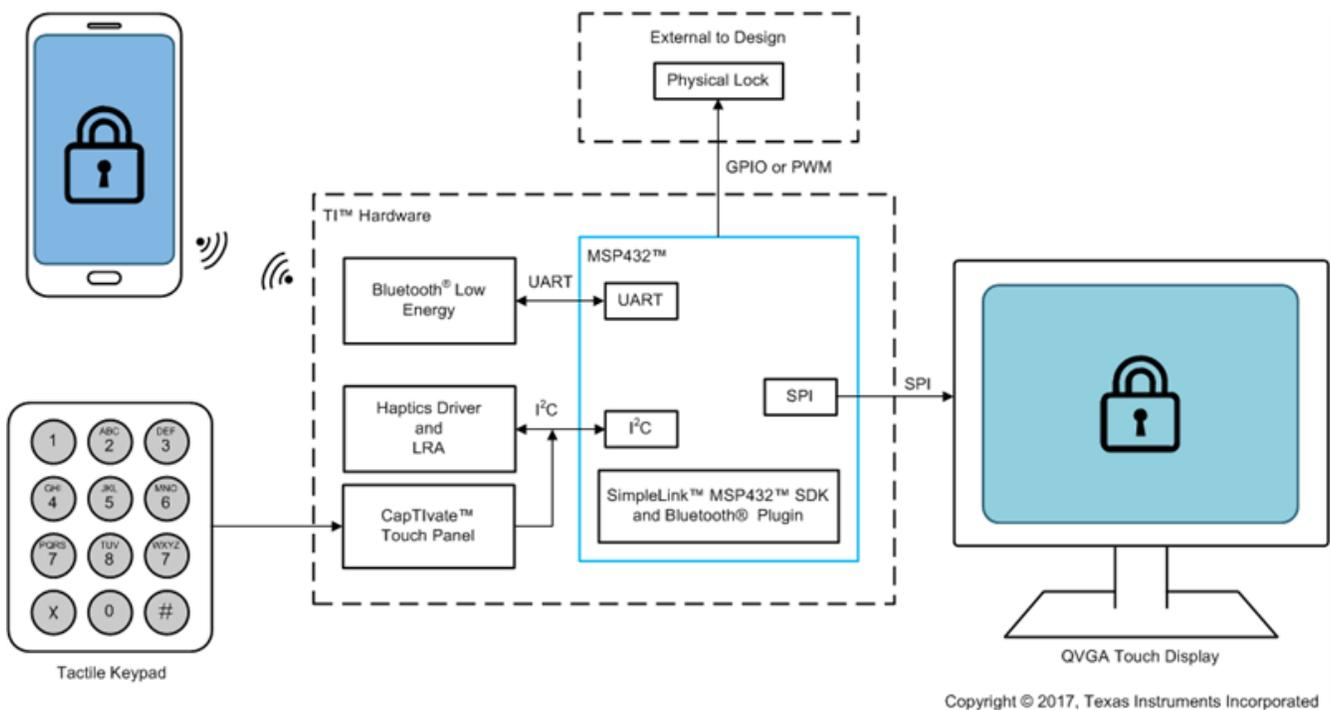

Figure 1. Door Lock Block Diagram
While electronic door locks should work reliably, they are susceptible to many environmental influences. Moisture, dirt, rain drops and ultraviolet (UV) light from the sun can erode materials over time. In addition, as an Internet of Things (IoT) device, the lock is vulnerable to cyberattacks, making protected wireless communication and a tamper-proof front panel and keypad mandatory features. These are only some of the challenges that a door lock has to resolve. In the block diagram in Figure 1, the important components of the physical lock are shown: keypad, wireless connection, display and control.